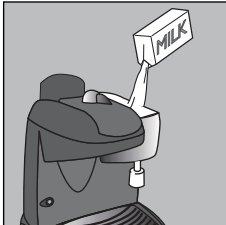

fig. 13
- 1 Pour the quantity of milk required to make the cappuccino coffees (about 100 ml for each cappuccino) into the milk container (E) (fig. 13). Never exceed the MAX level (corresponding to about 250 mls) marked on the tank (fig. 14) as milk may continue to drip from the milk tank tube after the cappuccino has been made. Always use fresh cold milk. Never use hot milk.